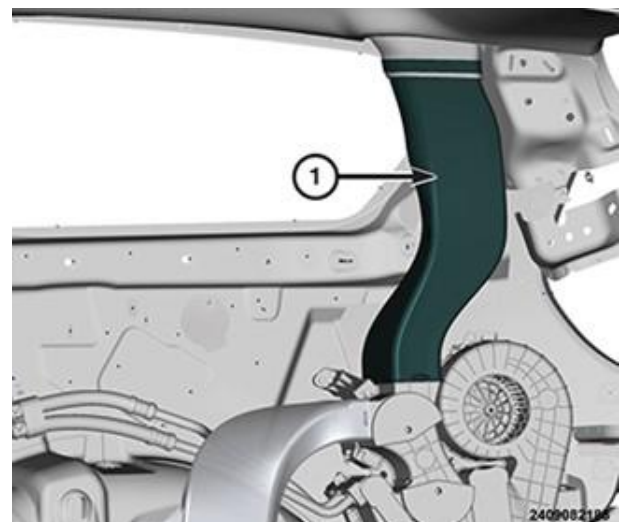

Figure 15 – Ceiling Distribution Duct
36. Pull the bottom end of the rear ceiling distribution duct away from the rear HVAC housing and disengage the duct from the duct located in the headliner (Figure 15).
37. Remove the rear ceiling distribution duct from the vehicle (Figure 15).